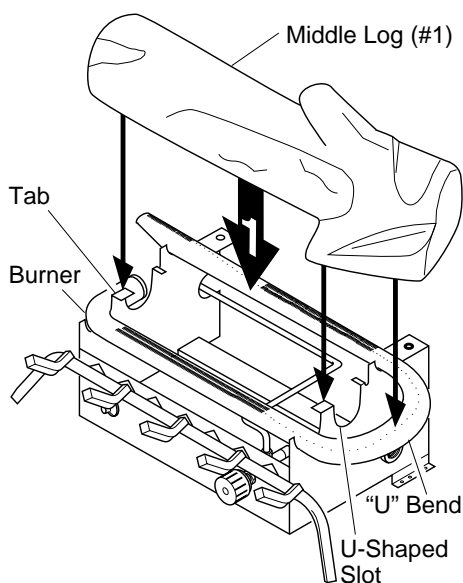

Figure 19 - Installing Middle Log (#1)
1. Place the base of the middle log (#1) in the U-shaped slots of the grate base. The cutout on the right of the middle log should fit over the burner (see Figure 19). Make sure the front of the middle log is resting on the tabs of the grate base and the cutout area is centered over the burner "U" bend.